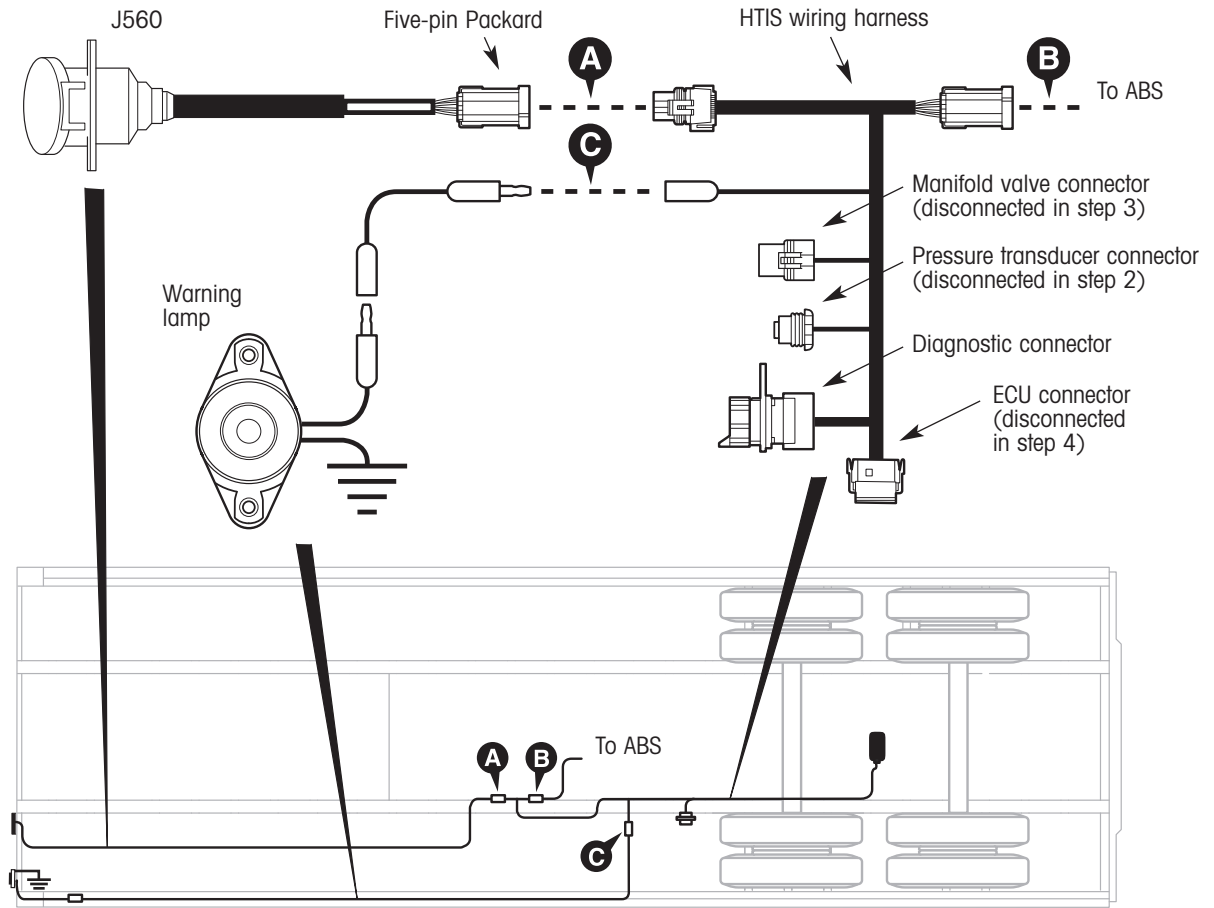

Figure 2. Disconnecting the existing HTIS wiring harness
9. Disconnect the harness power connector from the five-pin Packard connector on the J560 interface (A, figure 2), disconnect the harness five-pin Packard connector from the ABS wiring harness (B, figure 2) and disconnect the
warning lamp power wire from the HTIS wiring harness (C, figure 2). The existing HTIS wiring harness (figure 2) can be left in place on the trailer or completely removed. If you choose to leave the existing HTIS harness in place, tie and secure or cut and remove the loose connector ends.